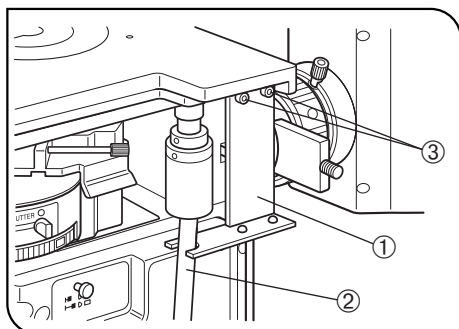

Fig. 89
(Figs. 89 & 90)
1. Insert the stalk ② of the flexible X-axis/Y-axis knobs into the U-shaped notch on the positioning bracket ①. (Fig. 89)
2. Using the Allen screwdriver, tighten the clamping screw ③ of the bracket lightly to the stage. (Fig. 89)